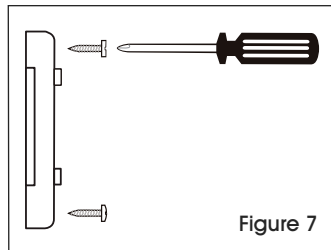

Figure 7
5. Position display wall mount bracket over drilled holes and fasten with two large Phillips screws. (See Figure 7)